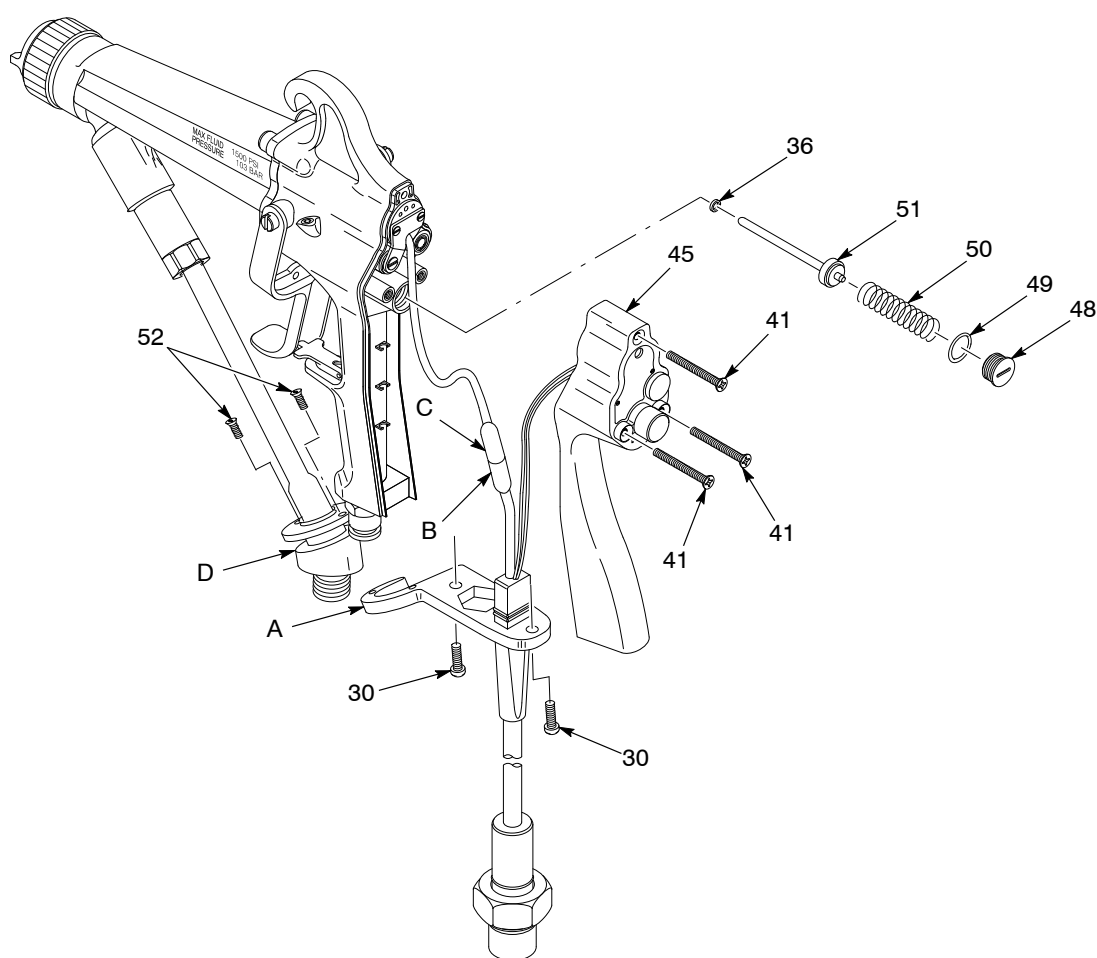

Figure 7-7 Air Valve Replacement
1. See Figure 7-7. Remove the two screws (52) that attach the fluid hose fitting (D) to the ground bracket (A). Remove the fluid hose from the ground bracket.
2. Remove the screws (30, 41) to remove the back cover (45) from the handle and ground bracket.
3. Slowly pull the back cover away from the handle so you do not disconnect the cable connector (B) from the multiplier connector (C) or pull on the kV actuator switch wires.
1. See Figure 7-7. Remove the air valve plug (48) with the combination tool. Inspect the O-ring (49). Replace it if it is damaged.
2. Remove the spring (50) from the handle. Do not lose the spring.
See Figure 7-7.